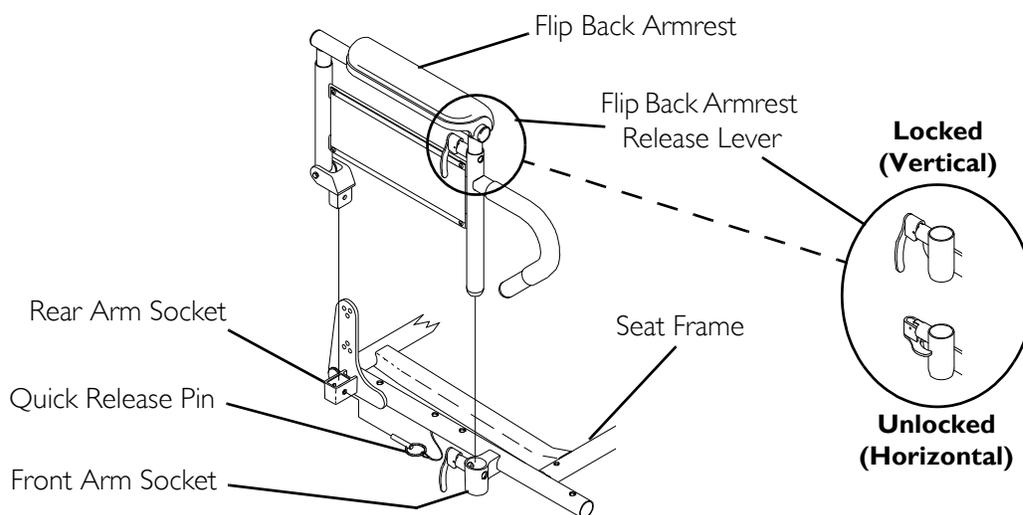

FIGURE 7.1 Installing/Removing Flip Back Armrests
NOTE: For this procedure, refer to FIGURE 7.1 on page 51.
3. Lock flip back armrest by pressing flip back armrest release lever into the locked position (FIGURE 7.1).
1. Unlock flip back armrest by pulling flip back armrest release lever into the unlocked position (FIGURE 7.1).